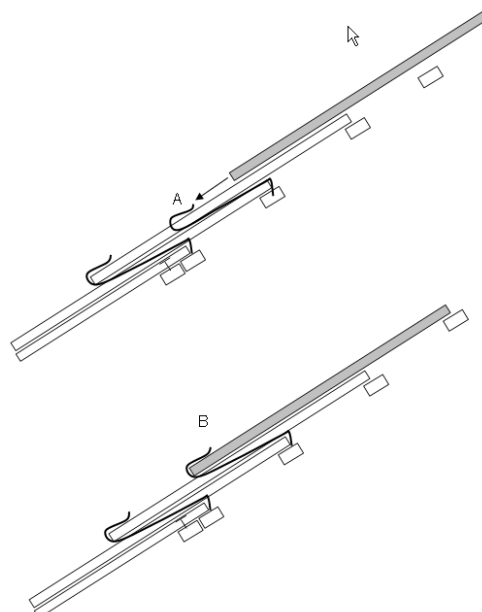

Figure 3. When the slate is inserted into the hook (A) the shank bends upwards allowing it to grip the slate (B)
2. The lower end which grips the slate could be too tight and cause a crack at the slate's tail. This gap does not need to be tight fitting to the slate because it is held by virtue of the shank sitting slightly low in the perpendicular gap. So when the tail of the slate is inserted into the hook (Fig 3 at A) the shank bends upwards slightly to grip the tail of the slate (B). However, if the gap is too large the hook may not make contact with the top surface of the slate and it would be free to lift in the wind. To take account of the variation in the thickness of natural slates in a consignment it may be necessary to check that the gap is suitable for all the thicknesses. Where there is a large variation it may be necessary to use different hooks for the thicker and thinner slates.